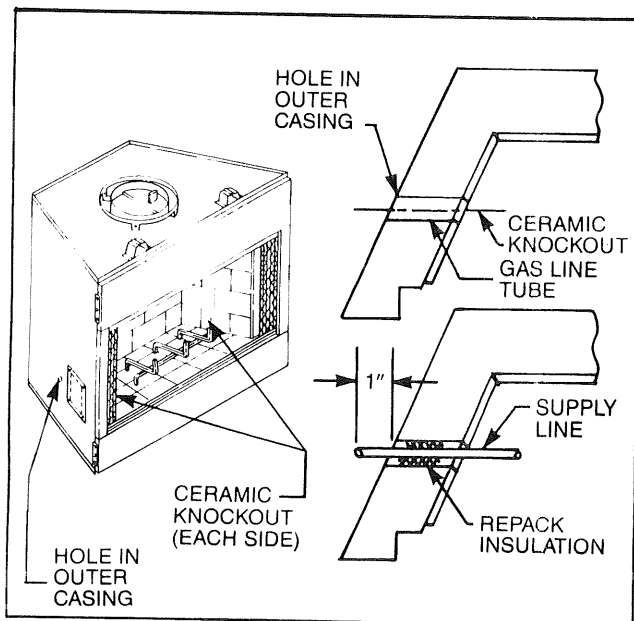

Fig. 25. Install iron pipe gas line through hole provided in either side of fireplace.
Locate the appropriate gas line hole in the outer casing of the fireplace and remove the insulation from the gas line tube. (Refer to Fig. 25.)
NOTE: The gas pipe should not come in contact with any wood structures until it has reached a point at least one (1) inch away from the fireplace side. (See Fig. 25 for installation clarification.)